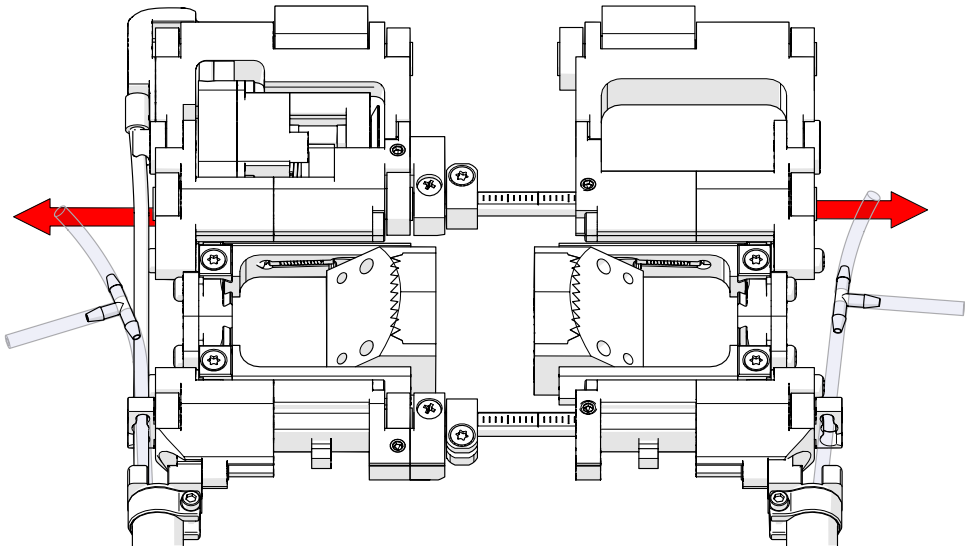

Fig. 71 - Slide apart to required spacing
5. Slide the two sides of the scanner apart, use the measurements of the crossbar to determine desired spacing (Fig. 71).